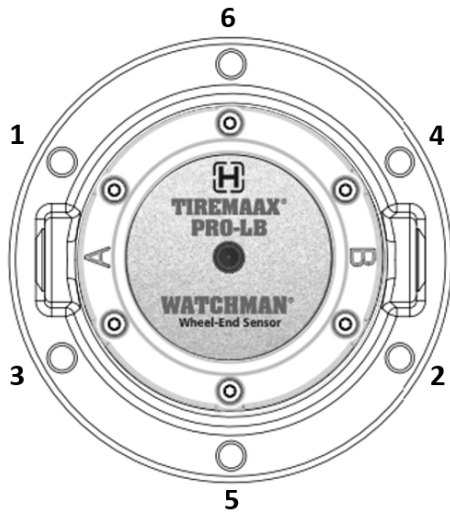

Figure 4: Hubcap torque pattern
**NOTE:** "A" and "B" ports shown in Figure 4 are important for proper tire location tracing on the TIREMAAX TPMS SENSOR system. It is recommended for consistency that port "A" is used for the outer tire in a dual tire scenario, or is the port used in a super single scenario.
8. Tighten hubcap bolts in the order shown in Figure 4 to 15±3 ft-lbs (20±4 Nm) of torque